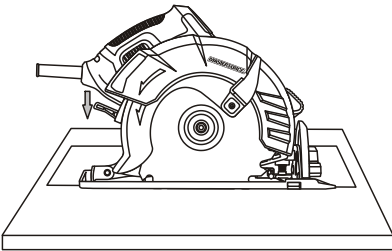

Fig. 12
7. Start the saw and slowly lower the blade onto the workpiece while holding the blade guard lever forward to allow the blade to cut into the workpiece (Fig. 12). Allow the blade to cut through the wood.